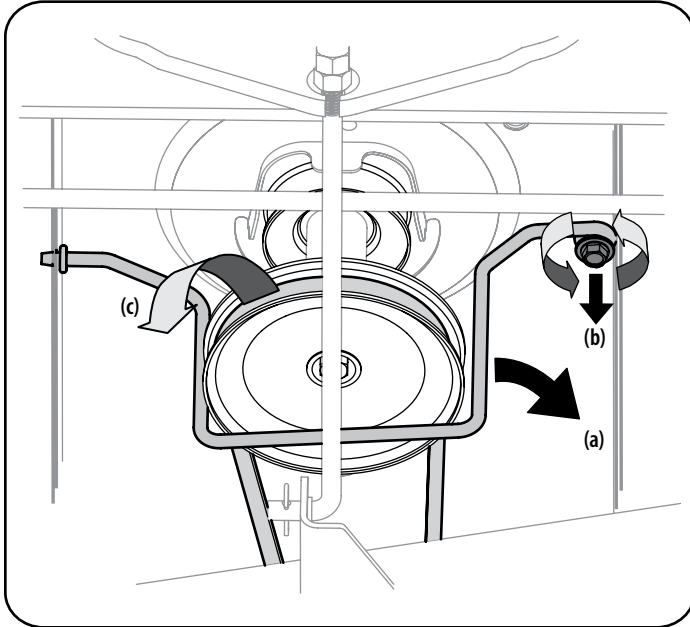

Figure 25
8. Remove the bow-tie pin (a) securing the deck stabilizer rod (b) to the deck. Slide the deck lift rod from the mounting weldment on the deck as seen in Figure 25.